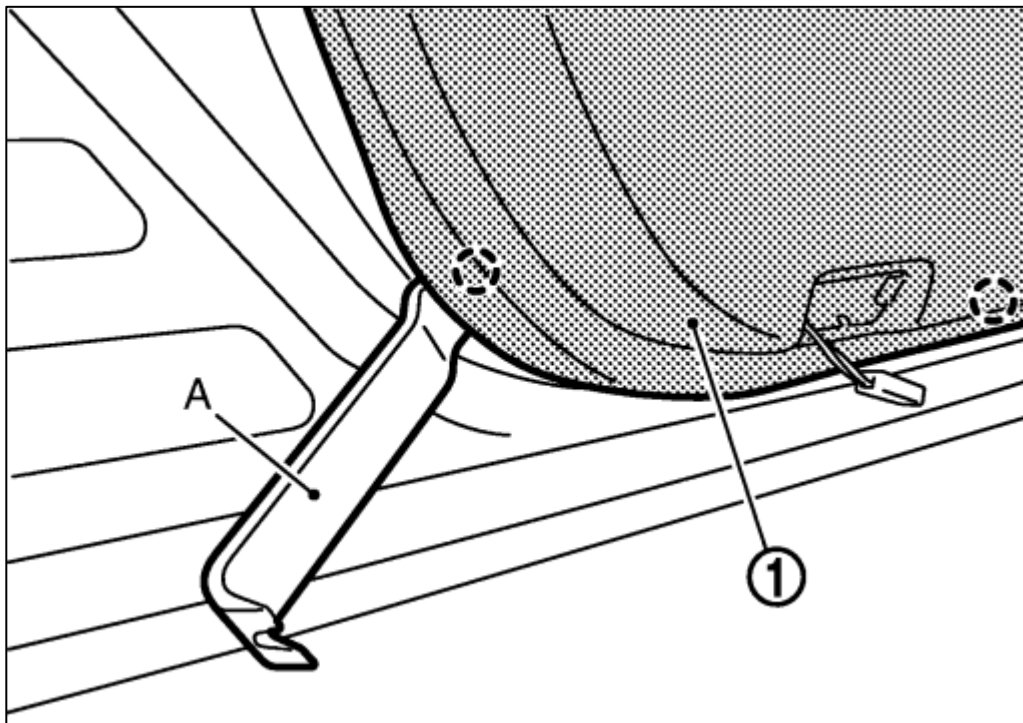

Figure 60
7. Starting at the bottom of the Door, use a Trim Removal tool to pry the Door Panel away from the Door. Once all clips are disconnected, pull up and away to remove the Door Panel. *Figure 60.*